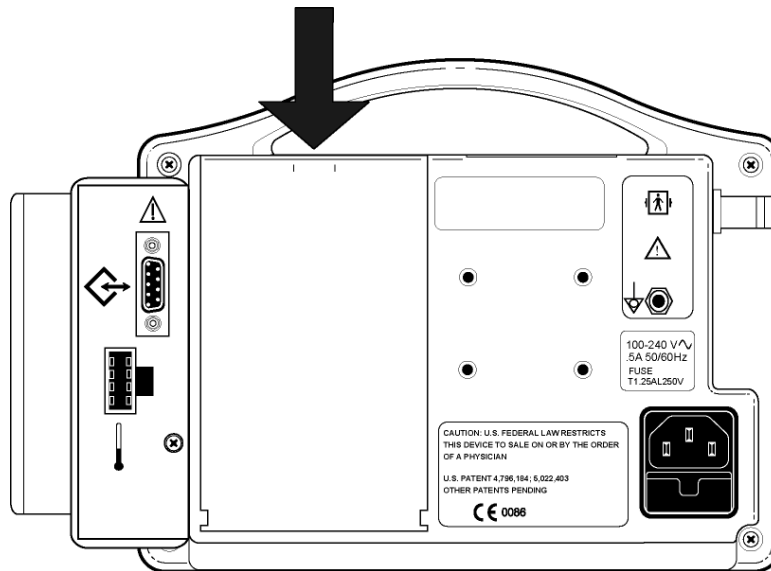

Figure 14: Removing the Battery
- 3) Carefully remove the battery pack from the rear panel of the monitor. Refer to Figure 14.